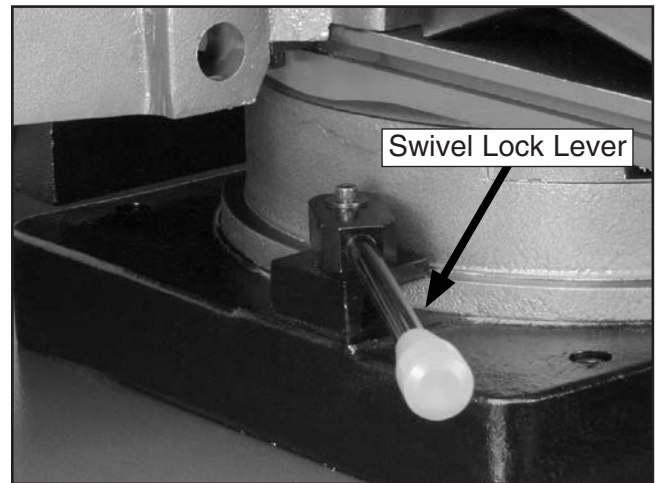

Figure 19. Swivel lock lever.
3. Loosen the swivel lock lever (**Figure 19**), rotate the turret to the desired angle, then re-tighten the swivel lock lever.